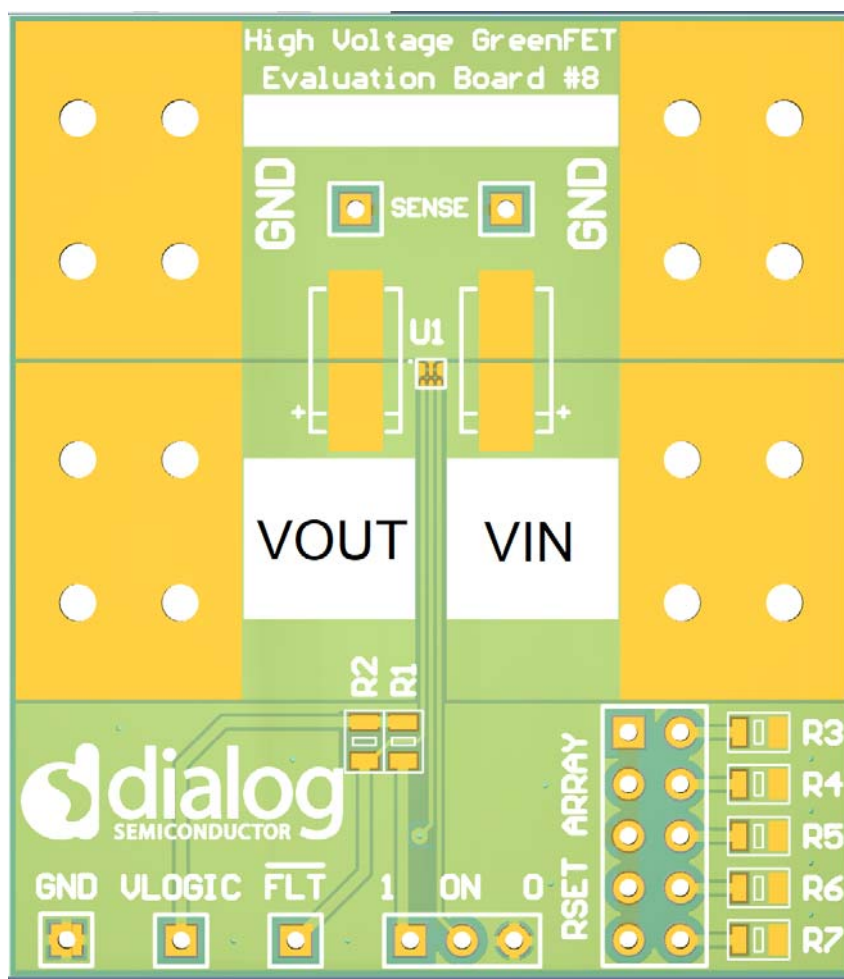

Figure 10. SLG59H1342C Evaluation Board
1. Since the VIN and VOUT pins dissipate most of the heat generated during high-load current operation, it is highly recommended to make power traces as short, direct, and wide as possible. A good practice is to make power traces with an absolute minimum widths of 15 mils (0.381 mm) per Ampere. A representative layout, shown in Figure 10, illustrates proper techniques for heat to transfer as efficiently as possible out of the device;
4. A High Voltage GreenFET Evaluation Board for SLG59H1342C is designed according to the statements above and is illustrated on Figure 10. Please note that evaluation board has Sense pads. They cannot carry high currents and dedicated only for RDS_{ON} evaluation.